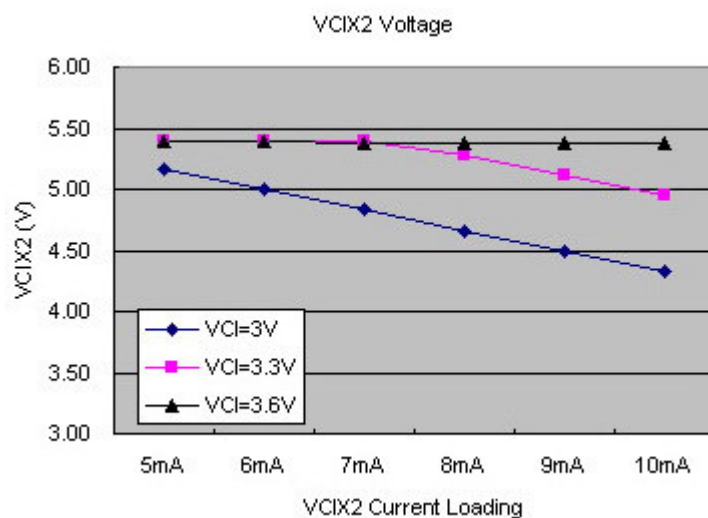

Figure 10.1 VCIX2 Voltage
(2) VCOML < 0V, VCOMH < VCIX2J, VCOMH > VCI
(3) VCIX2 voltage is related with VCI voltage & VCIX2 loading. Figure 10.1 shows the estimated VCIX2 voltage under different VCIX2 current loading when ITO for VCIX2、VCI and VCHS = 10Ω.